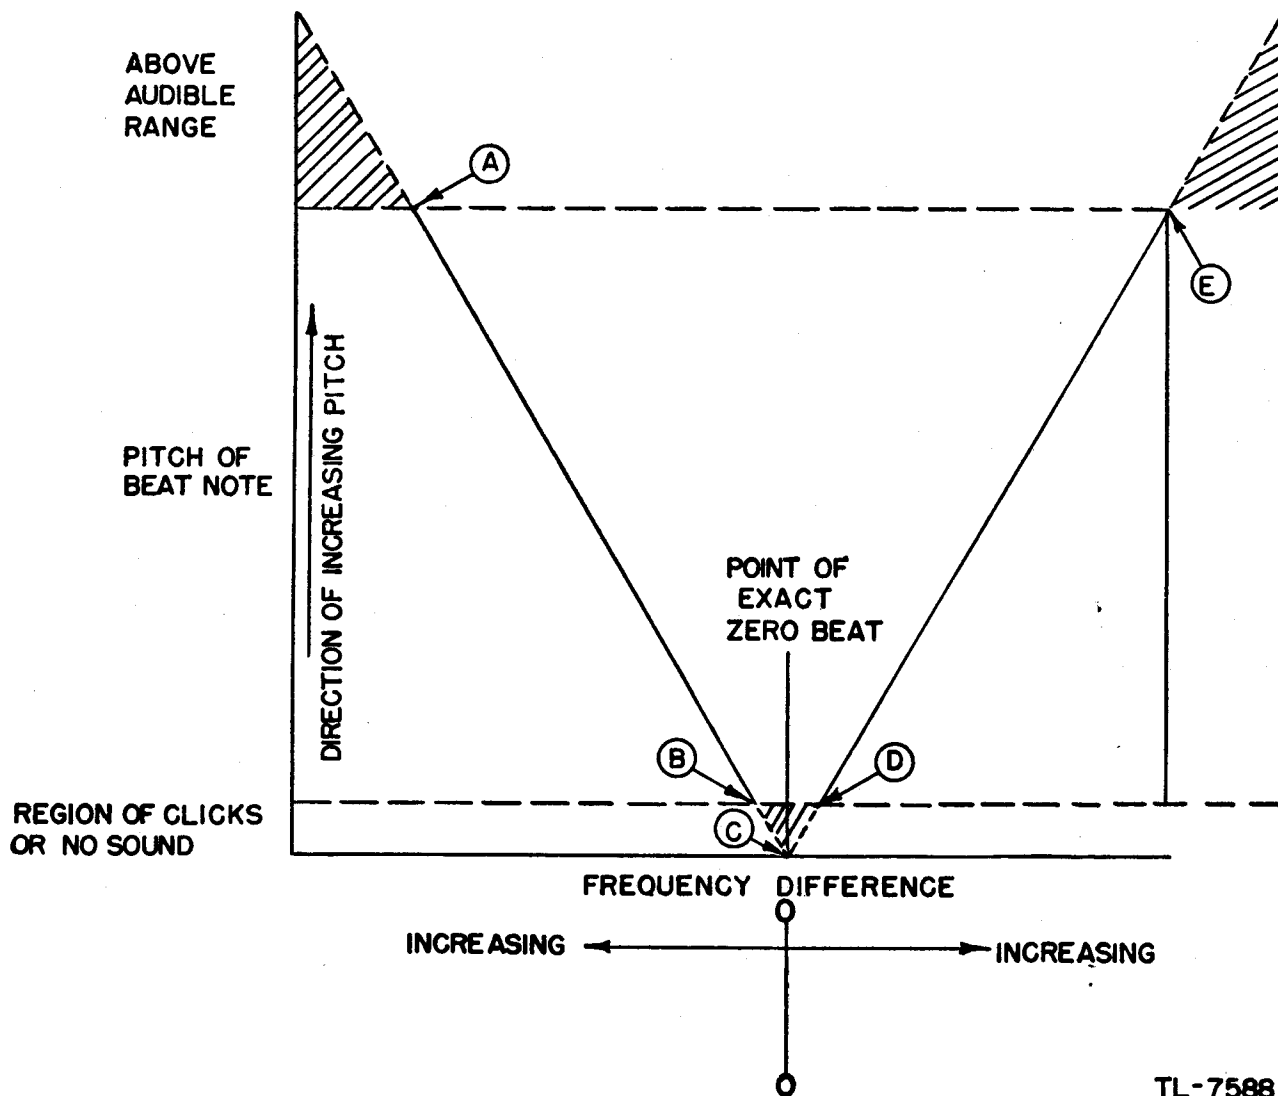

Figure 15. Beat frequency diagram, zero beat region.
When two frequencies are present in the input of a detector or mixer circuit, the difference between the two will appear in the output circuit as a third frequency. This difference is called the beat frequency. If the two original frequencies are very close to the same value, the difference may be only a few thousand cycles or less. Such a low frequency lies within the audible range, and can be heard in the headset as a definite tone. This region of beat frequencies is shown schematically in figure 15. Starting at point (A) on the figure, a very high pitched note can be heard in the headset. As the two frequencies are brought closer to the same value (decreasing difference), the tone decreases in pitch down to point (B) where the tone is replaced by a series of rapid clicks. As the process continues still further, the clicks decrease in rapidity until they stop altogether at point (C). This is the point of *zero beat* (where the two original frequencies are exactly the same, that is, their difference value is zero). Matching of the two frequencies, for all practical purposes, is obtained when clicks are heard at rather infrequent intervals. It is extremely difficult to maintain a condition of absolute silence in the headset over prolonged intervals of time. If one of the two original frequencies is varied still further, the rapidity of the clicks increases to point (D). At this point a low pitched tone is heard. Further variation in the same direction